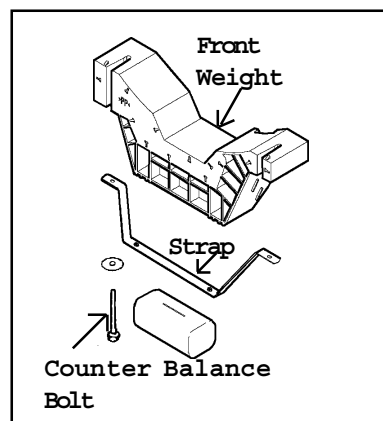

Figure 7-12
2. Remove the two bolts securing the weight to the outer tub assembly. Use a 9/16" socket (Figure 7-12).